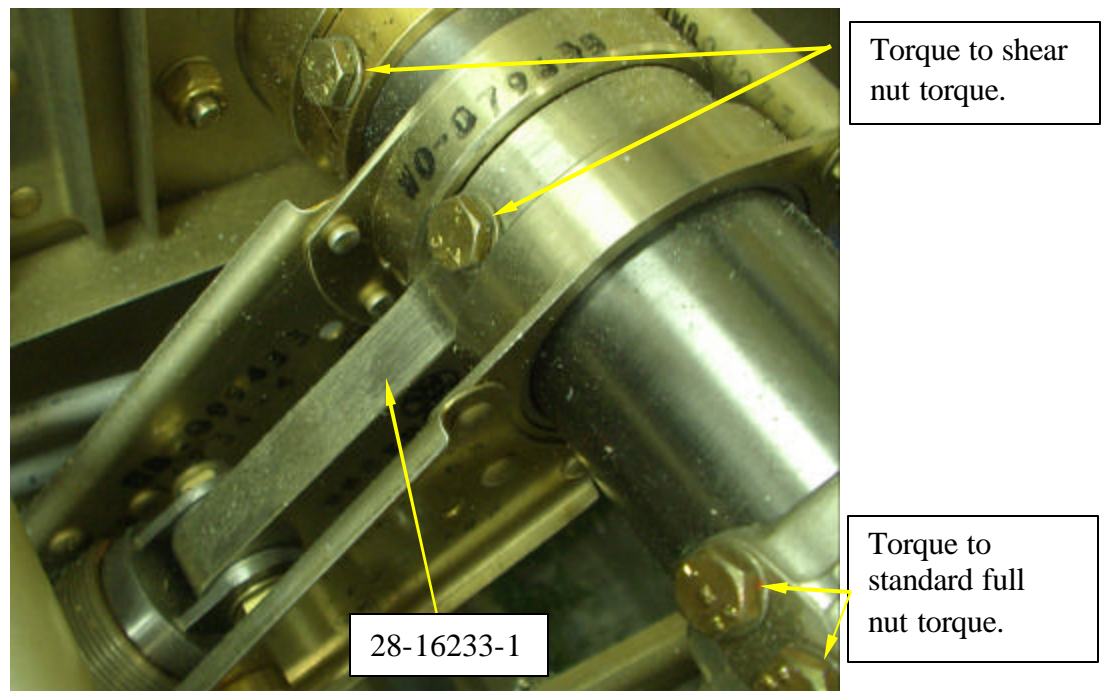

Figure 1. Collective Spring Capsule Bellcrank P/N 28-16233-1/-3
- E. Model F-28F, 280F, or 280FX: Disconnect the collective bellcrank from the spring capsule by following steps 1 through 9 in Section 12-5 of the F-28F/280F Series Maintenance Manual. See Figure 1
- F. Model F-28A, F-28C, 280, or 280C: Disconnect the collective bellcrank from the spring capsule by following steps a through h in Section 11 of the F-28A/F-28C or 280/280C Series Maintenance Manual (pages MM-11-4 and MM-11-5). See Figure 1.
- K. Do not overtorque the bolts in the torque tube. Torque to shear nut torque. Use full torque on all bolts connecting the collective stick fitting to the torque tube. See Figure 1.
- J. Do not overtorque the bolts in the torque tube. Torque to shear nut torque. Use full torque on all bolts connecting the collective stick fitting to the torque tube. See Figure 1.
7. MAN-HOURS: Visual Inspection: 0.5 Man-hours; Dye Penetrant Inspection: one (1) Man-hour; Replacement: two (2) Man-hours